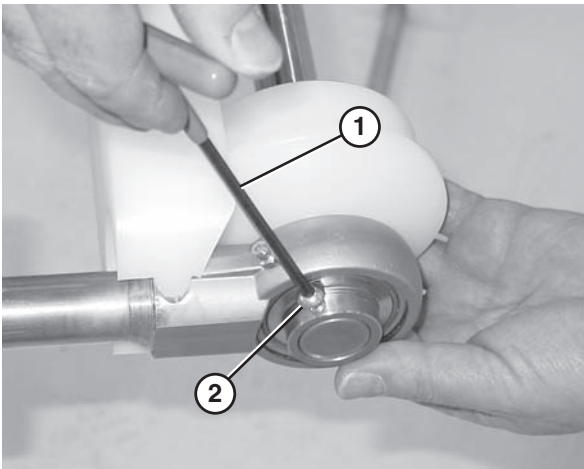

Figure 78
- Use a hex wrench (**Figure 78, item 1**) to loosen the bearing shaft assembly fasteners (**Figure 78, item 2**).